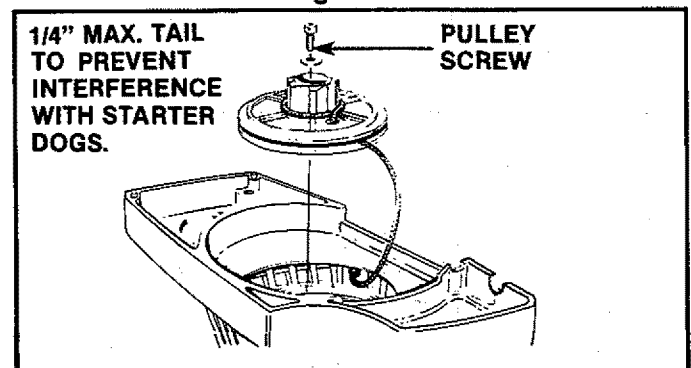

Figure 50
5. Remove the pulley screw in the center of the pulley. Figure 50.
9. Feed the rope through the housing and the round starter hole. Figure 50.